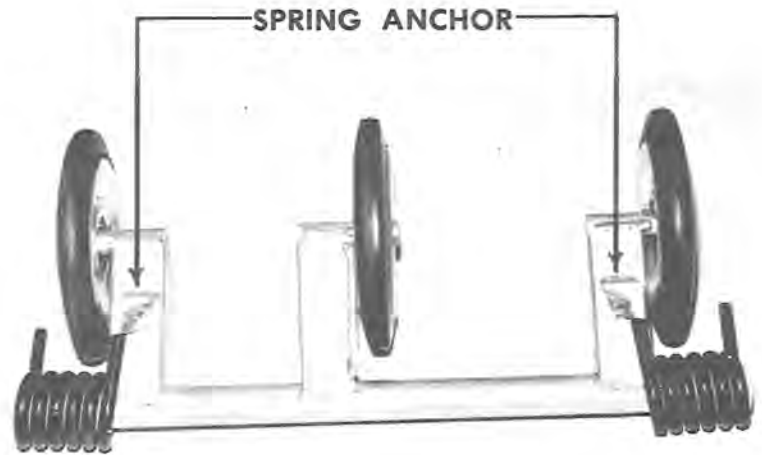

FIG. 5-10
CAUTION: When installing the springs on the three (3) bogey weldments, make certain that the anchors are peened down as close to the weldment as possible. If this is not done, track damage could occur. (FIG. 5-10).